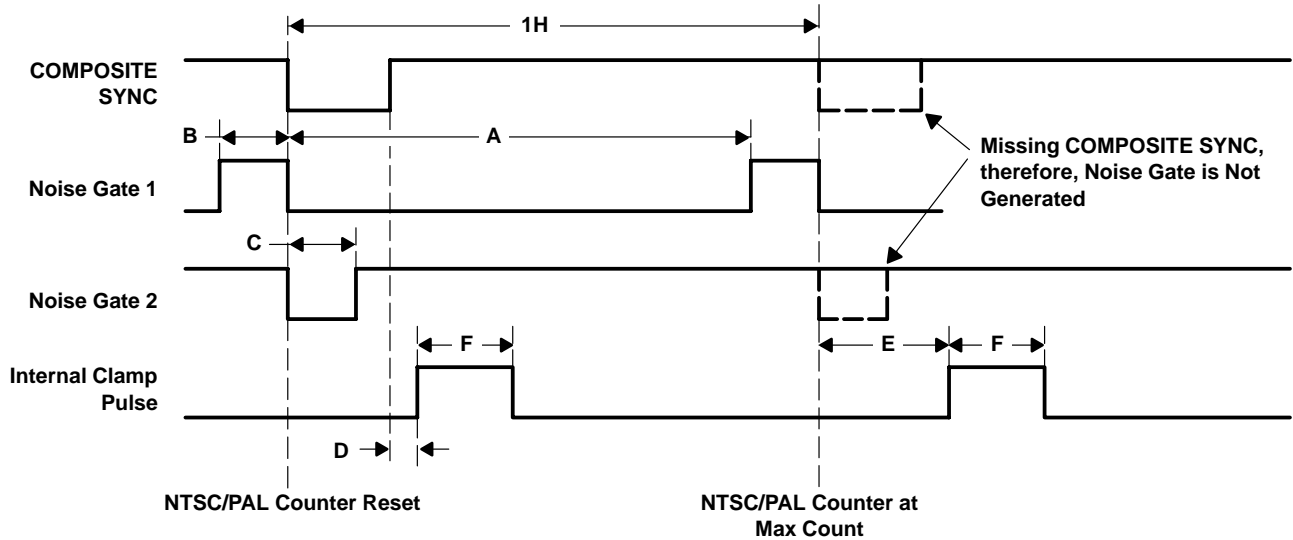
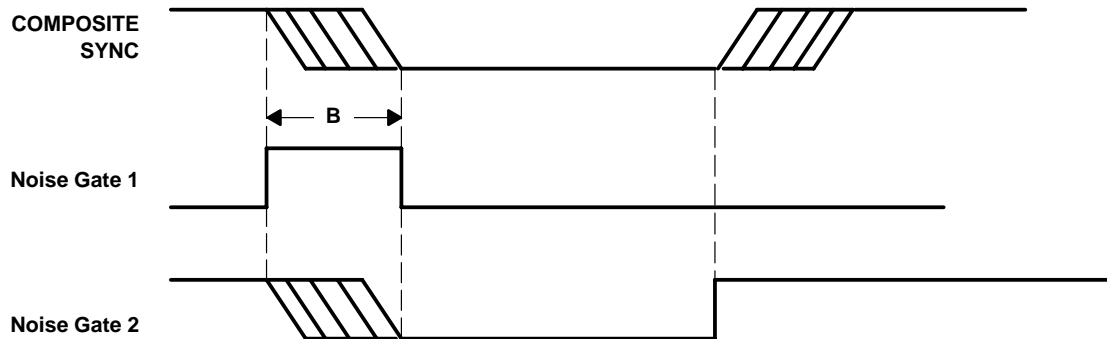

Figure 1. COMPOSITE SYNC and Internal Clamp Timing
Figure 2. Proper COMPOSITE SYNC Timing
When CLPEN is high, COMPOSITE SYNC generates an internal clamp pulse on the horizontal blanking interval back porch. The TLC5733A has a timing window into which the horizontal sync tip must occur. There is a noise time window for the falling edge and one for the rising edge (see Figure 1, Figure 2, and Table 3).
- Under all four conditions on EXTCLP, the internal clamp generation circuit generates a clamp pulse at the proper time after the horizontal sync period as shown in Figure 1.